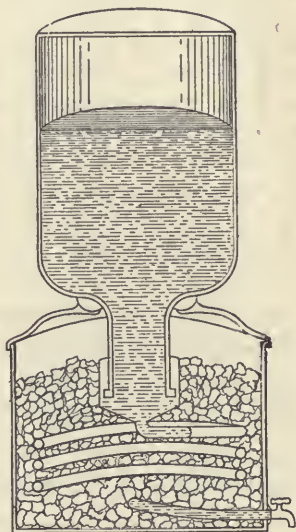

FIG. 36.—Cross-section of a modern drinking fountain.
12. Explain the action of the modern drinking fountain (Fig. 36).